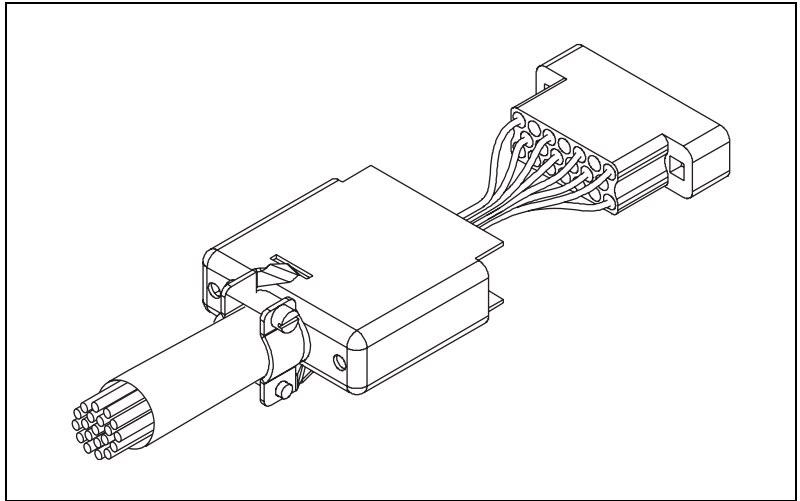

Figure 3. Connector with Inserted Solder Cup Pins
- Refer to the front panel pinout diagram in your module specifications. Use this diagram to insert the solder cup pins (with conductors attached) into the connector. Solder cup pins will snap into place when inserted correctly, as shown in Figure 3.